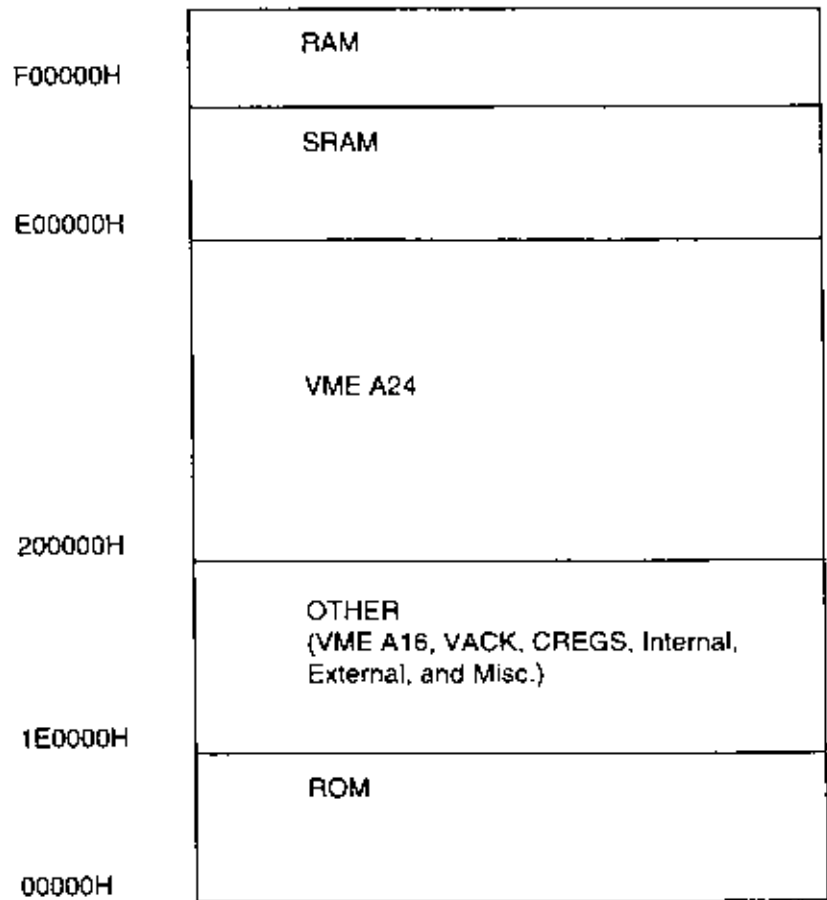

Figure E-1 VXibus Shared Memory Model Address Space
*Figure E-1* illustrates the VXibus shared RAM model for the HP E1420B. The VXibus shared RAM is the portion of memory labeled VME A24. During normal operation MEMORY:VME:STATE is set OFF. The counter acquires measurements that are stored locally in the VME A16 address space.